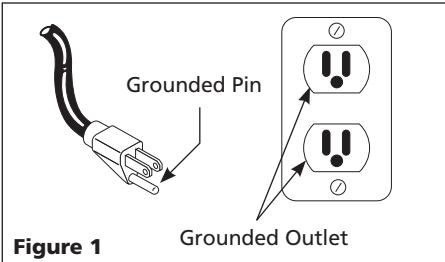

Figure 1 Grounded Outlet
19. To reduce the risk of electrical shock, the pump should be plugged directly into a properly installed and grounded 3-prong grounding type receptacle, as shown in Figure 1. The green (or green and yellow) conductor in the cord is the grounding wire. The motor must be securely and adequately grounded for protection against shock.